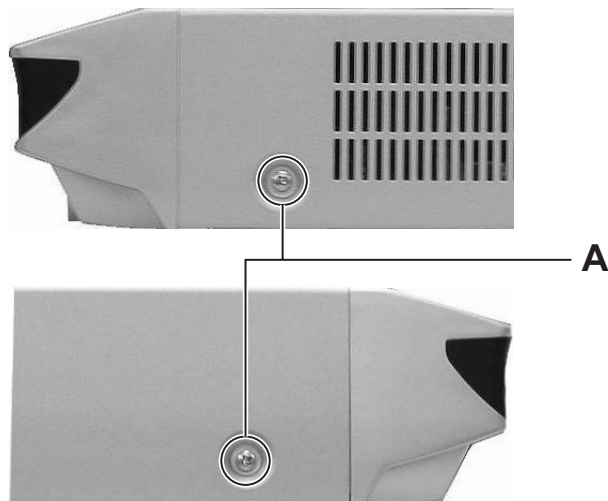

Fig.1
3.1.1 Removing the top cover (See Fig.1 and 2)
- (1) Remove the two screws **A** attaching the top cover of both side. (See Fig.1)